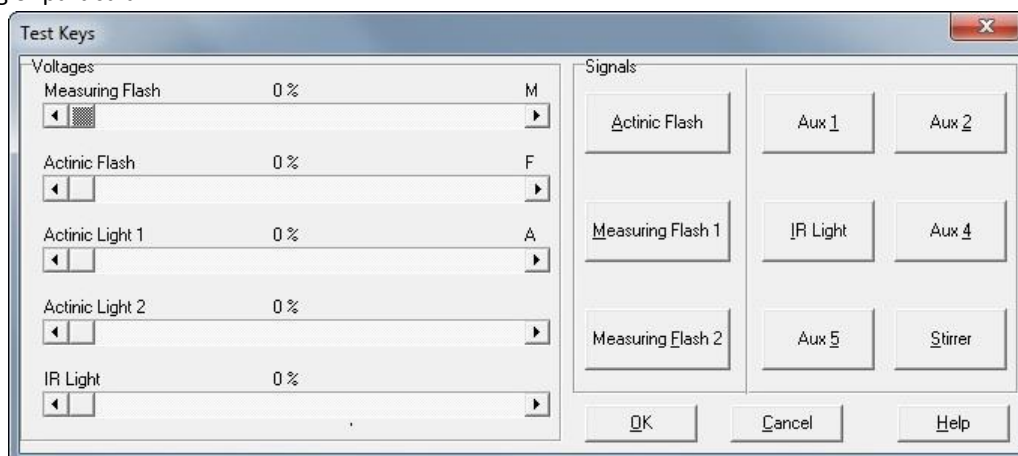

Fig. 52 Test Keys window.
- The Test Keys Window (Fig. 52) sliders allow manual setting of the voltage for Measuring Flashes, Actinic Flash, Actinic Lights and IR light. Pressing Signals buttons activates LEDs for default duration (15 μ s for the Measuring flash, 1 s for the Actinic light and IR Light). For checking the LED function move the Voltage slider of the tested light on 60 %. Then look from 20 cm distance into the chamber of the Measuring unit, press respective button and check visually correct functioning of particular LED.